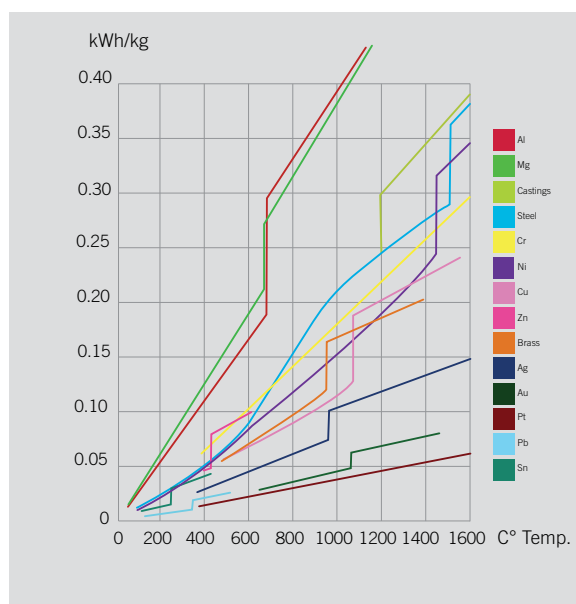

Fig. 1. Energy absorption rates for different materials
Alternating current flowing through a coil generates a magnetic field. The strength of the field varies in relation to the strength of the current passing through the coil. The field is concentrated in the area enclosed by the coil; while its magnitude depends on the strength of the current and the number of turns in the coil. (Fig. 1)
Step 1 First determine the material's energy absorption rate. Fig. 1 shows rates for some common materials.